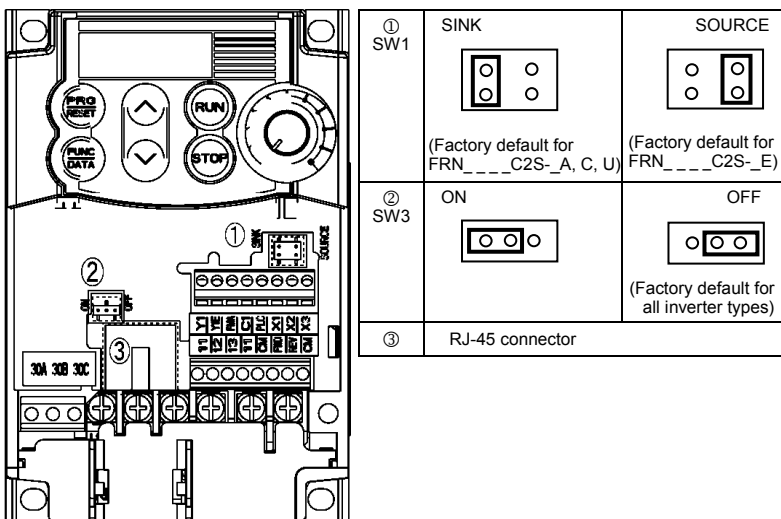

Figure 2.12 Locations of Jumper Switches and RJ-45 Connector
Switching the jumper switches (shown in Figure 2.12) allows you to customize the specifications of the digital I/O terminals and the RS-485 communication terminating resistor.
① SW1	<p>SINK/SOURCE switch for digital input terminals</p> <ul style="list-style-type: none"> <li>• To use digital input terminals [X1] to [X3], [FWD] and [REV] in the SINK mode, set a jumper in the sink position, to use them in the SOURCE mode, set a jumper in the source position. (See Figure 2.12.)</li> <li>• To switch between SINK and SOURCE modes, use a mini needle-nose pliers or the similar tool to change the mounting position of the jumper.</li> </ul>
② SW3	<p>Terminating resistor ON/OFF switch for RS-485 communication</p> <ul style="list-style-type: none"> <li>• To connect an optional remote keypad, set a jumper in the OFF position (factory default).</li> <li>• If the inverter is connected to the RS-485 communications network as a terminating device, set a jumper in the ON position.</li> <li>• To switch the terminating resistor ON and OFF, use a mini needle-nose pliers or the similar tool to change the mounting position of the jumper.</li> </ul>
Figure 2.12 shows the locations of jumper switches and the RJ-45 connector.